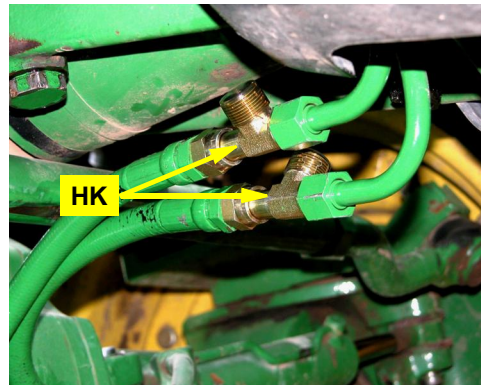

Figure 5b: Run-tees installed in steering lines
- b. Install run-tee fittings **HK** at the junction of the steel and rubber portions of the steering lines (Figure 5b).